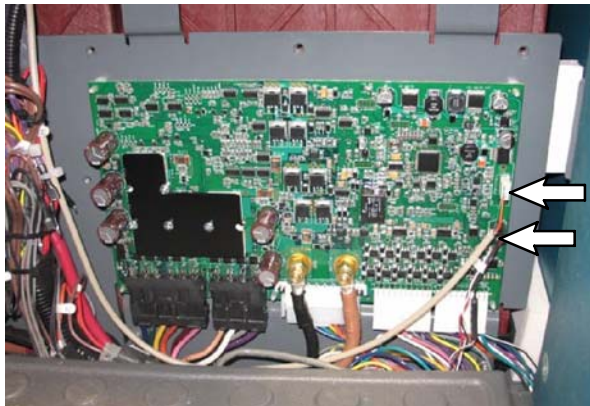

FIG. 2
5. Disconnect the two cables connected to the side of the control board. Refer to Fig. 2.